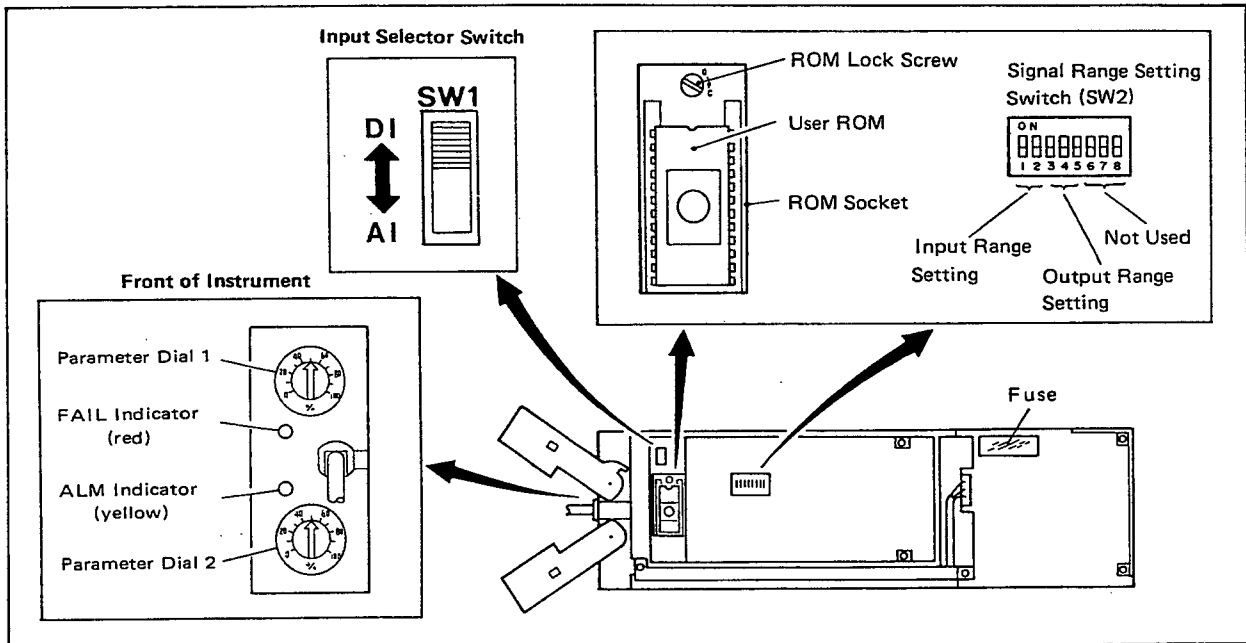

Figure 5-2. Check Points and Setting Prior to Operation.
- (4) The I/O signal levels are set to 1 to 5 V at the factory before shipment. If other signal levels are to be set, use a tweezers to set the signal range setting swith SW2 (see Figure 5-2) as listed in Table 5-1.